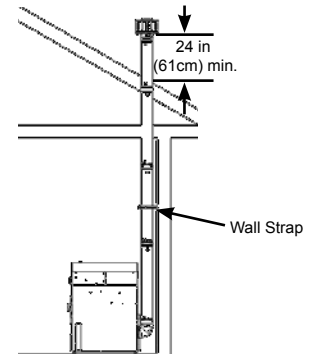

FIGURE 13
7. Install Wall Straps every four (4) feet in both vertical and horizontal vent runs (required). See Figure 13.
9. After lining up for hole in roof, use same method as above and cut either a round or square hole in the roof. Always cut the hole at least 4 in. (10cm) larger than the diameter of the pipe to allow for 2" clearance. Install the upper edge and sides of Flashing under the roofing materials and nail to the roof along the upper edge. Do not nail the lower edge. The Vent Cap must extend a minimum of 24 in. (61cm) above the roof. See Figure 13.